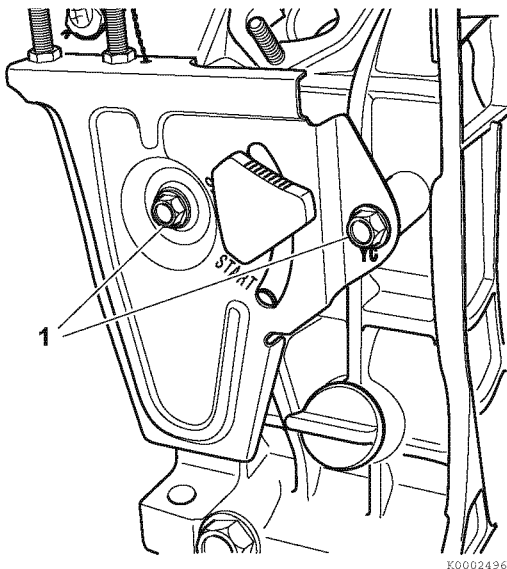

Figure 6-78
1. Remove the bolts (1, **Figure 6-78**) that retain the speed control assembly.